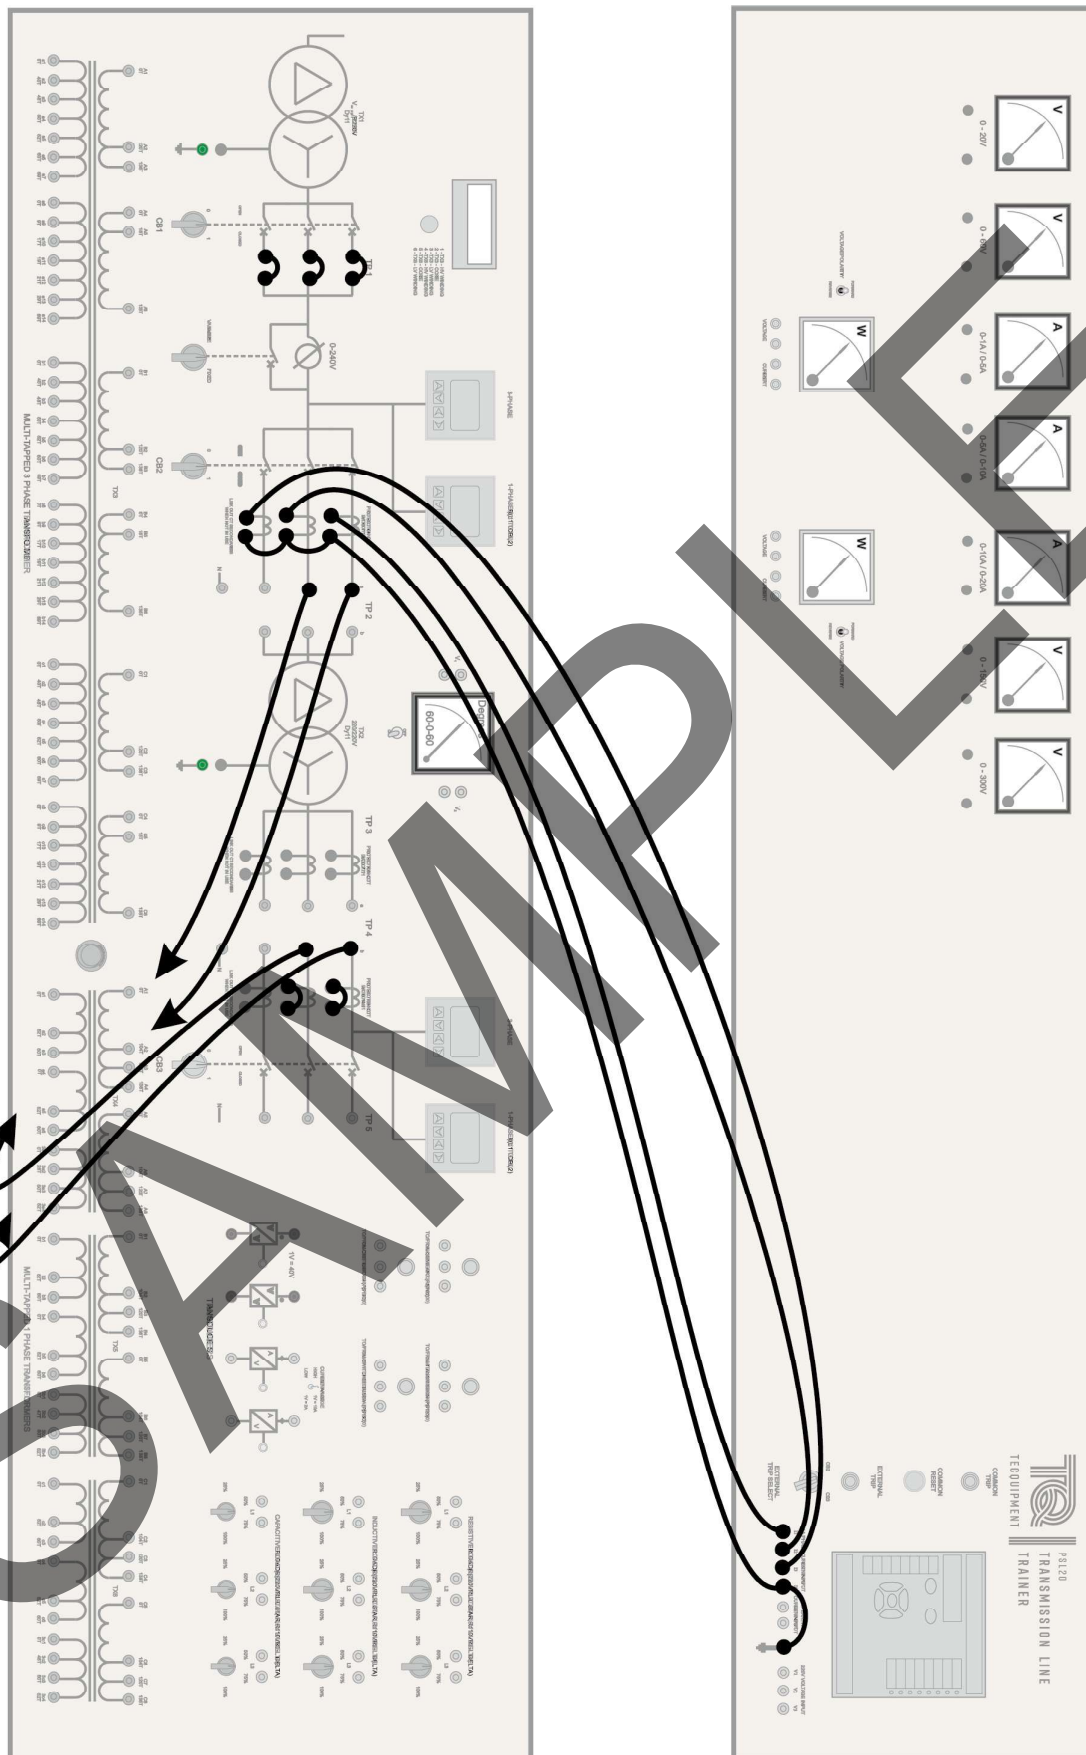

Figure 41 Connection for Experiment 2 Procedure 1 - Single Phase Tests
- 1) Connect the circuit as in Figure 41. This circuit includes the protection relay in the supply for extra protection during your experiment. The relay does not need its voltage connections of Experiment 1.